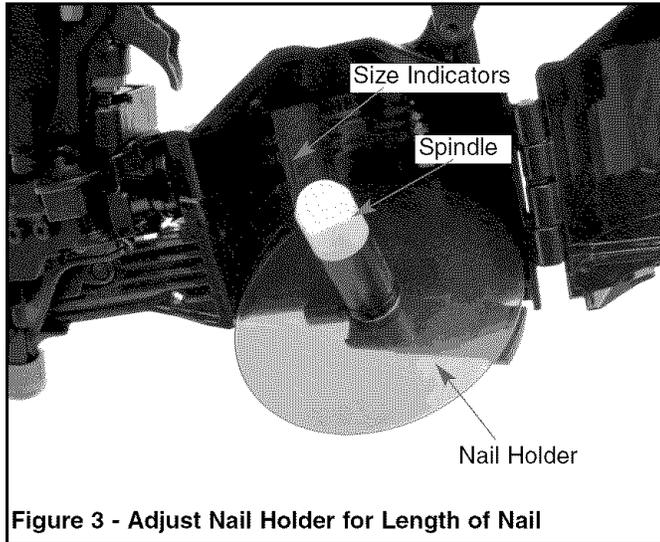

Figure 3 - Adjust Nail Holder for Length of Nail
- The nail holder must be set to the length of the nails being used. Twist the spindle of the nail holder and position nail holder up or down so that the edge of the nail holder is aligned with the correct size indicator on the inside of the magazine. Twist spindle to lock nail holder in place (see Figure 3).